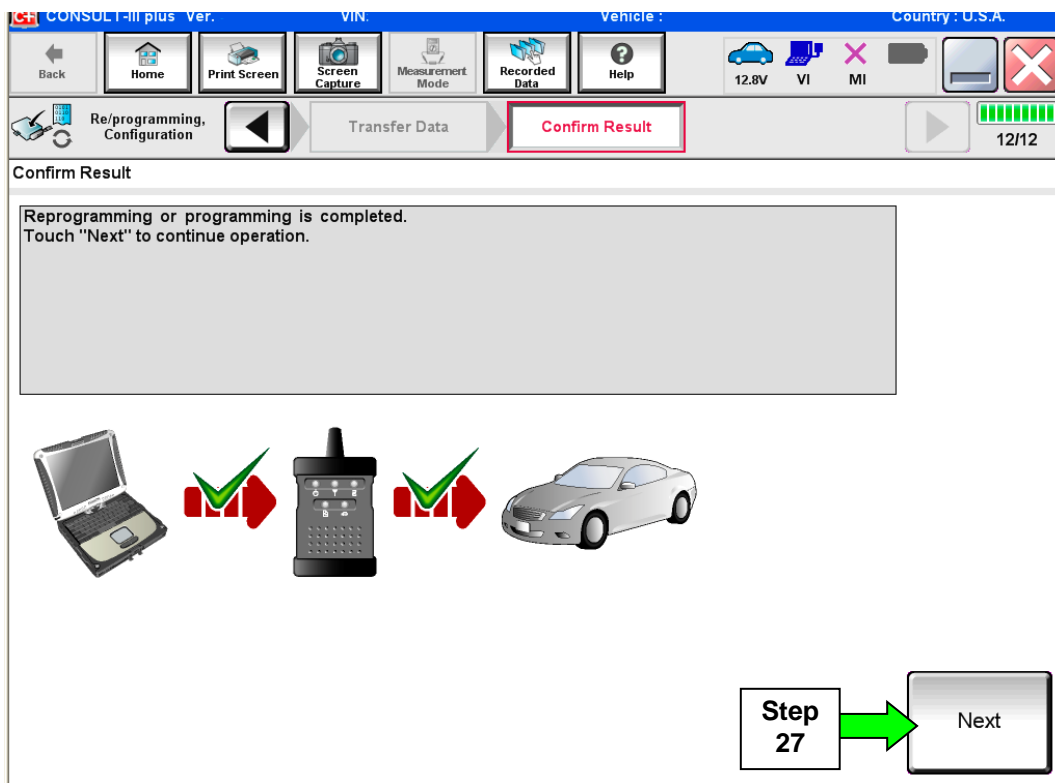

Figure 18
26. When the screen in Figure 18 displays, reprogramming is complete.
**NOTE:** If the screen in Figure 18 does not display (indicating that reprogramming did not complete), refer to the information on page 14.